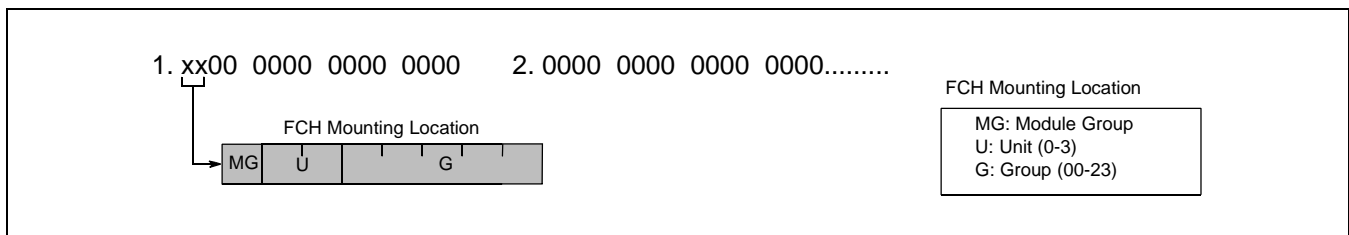

Figure 7-6 3-D PM Lockup Failure (Permanent)
The CPU sends diagnosis data at periodic intervals to the Port Microprocessor (PM) on FCH (PA-FCHA) cards to monitor the PM. If the CPU cannot receive the return data within a predetermined time, the system displays the data in Figure 7-6. When the failure is detected more than 15 times per hour, the failure is judged as permanent. Otherwise, 3-E PM Lockup Failure (Temporary) is displayed.